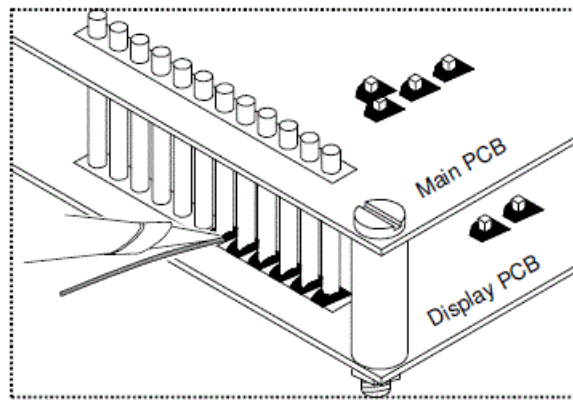

Fig. 4.0
- Make sure to connect all jumper wires with the display print and solder them (see figure 4.0).